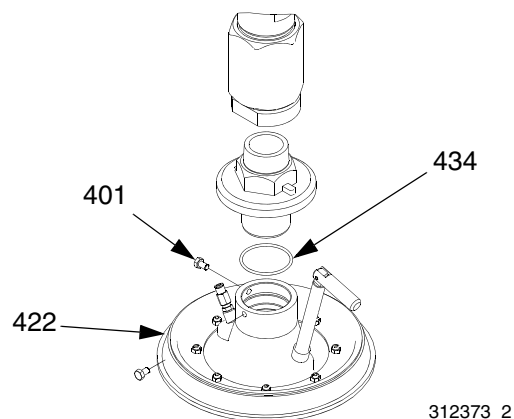

FIG. 20: 20 and 30 liter mounting kit
1. Insert o-ring (433) and two screws (432) in adapter (431) from mounting kit 255393 and push adapter into pump intake. See FIG. 20.
2. Place o-ring (434) from mounting kit 255393 on platen. Loosen mounting bracket screws (426) and carefully lower pump onto o-ring (434) and platen.
3. Secure pump's intake flange to plate with screws (401).